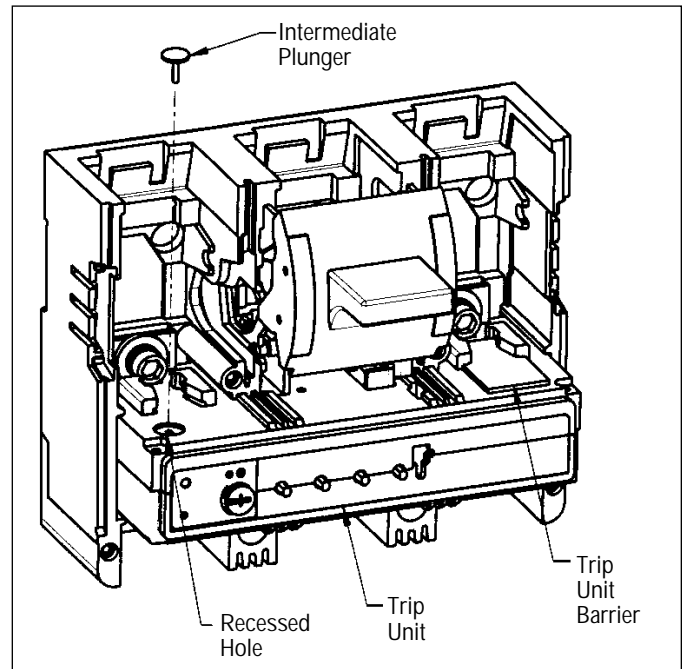

Figure 2-2 Trip Unit Barrier Removal
- 2-5. For high instantaneous trip-type (catalog suffix K designation) molded case switches, find recessed hole in either of the trip unit outer poles (Figure 2-2). Push intermediate plunger supplied with UVR in one hole to trip the molded case switch. Remove plunger to prevent it falling out of recessed hole in trip unit and into molded case switch mechanism.
- a. Remove barrier from trip unit accessory mounting slots in pole being used for accessory (Figure 2-2).
- b. Position intermediate plunger in trip unit (Figure 2-2).